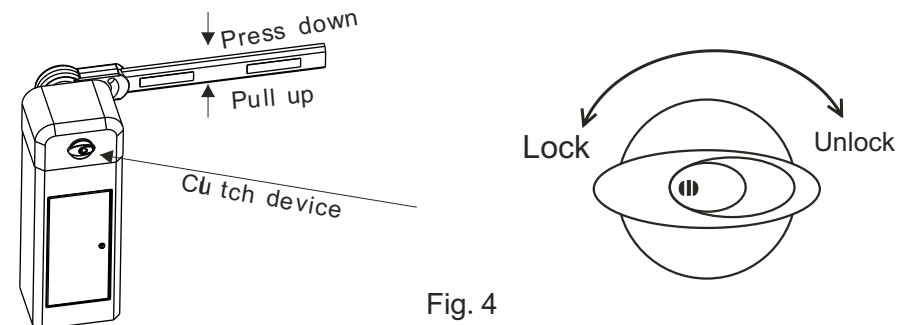

Fig. 4
7. 1. 3) Unlock the clutch device with the clutch key clockwise. Move the boom to the horizontal and vertical position manually to make sure there is no obstruction. Then turn on the power (refer to the Fig. 4)
(G) The method to lock up or unlock the clutch device. The clutch can not be unlocked. Insert the clutch key and rotate it clockwise to unlock it, and the anticlockwise to lock it. If the clutch device could not be locked up or unlocked easily, please pull up or pull down the boom by hand lightly. (Refer to Fig. 4)